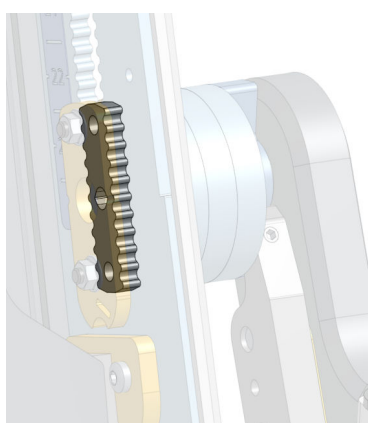

Figure 11. Toothed component used for height adjustment
1. Dismantle the arm support and pull it outwards (see [Figure 10, "Removing the arm support" \[22\]](#)). A toothed component will fall out, which is used to lock the height into position. See [Figure 11, "Toothed component used for height adjustment" \[22\]](#).